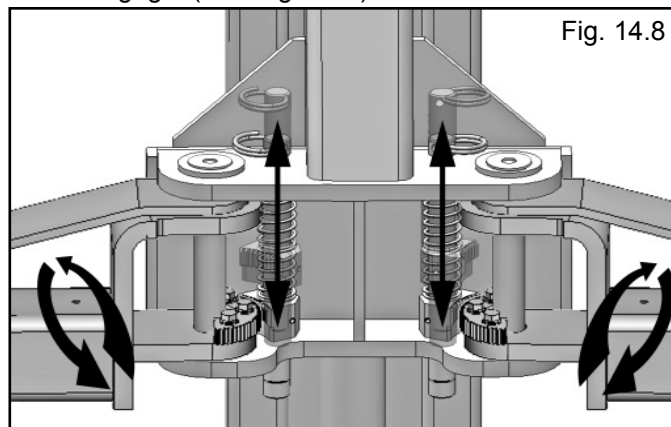

Fig. 14.8
- Verify the operation of the Arm restraints by pulling up on the Key Ring of the Arm Restraint Pin. Pivot the arms back and forth and test the operation of the Arm Restraint Pin in various positions. When releasing the Arm Restraint Pin the Pin should drop and the Gears should engage. (See Fig. 14.8)